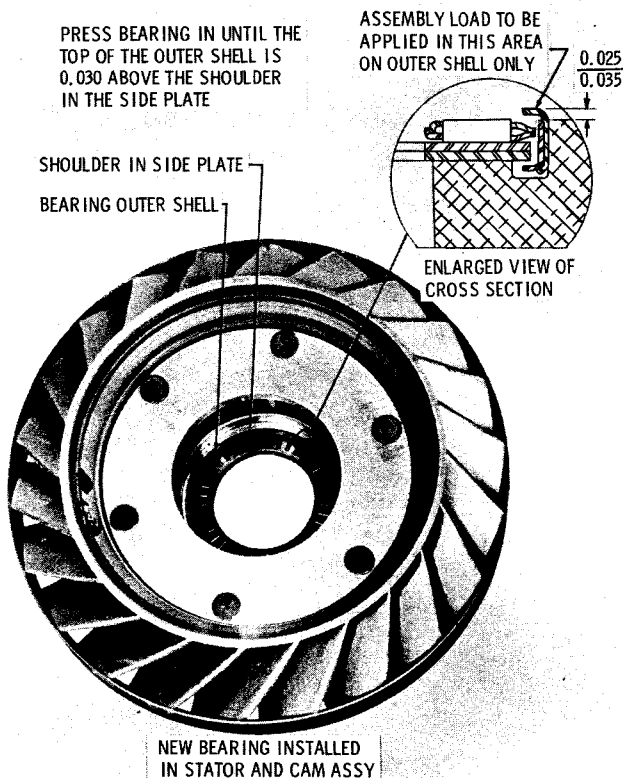

Fig. 6-4. Installation of thrust bearing assembly in stator (TC 300)
(1) If bearing 9 (A, foldout 6) was removed, install a new bearing assembly. The bearing must be installed as shown in figure 6-4. A special tool (fig. 4-3) should be used to insure proper assembly.